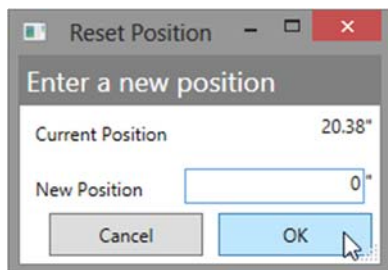

Figure 87
3. Enter “0” in the **Reset Position** dialog box. Press **OK** (Figure 87).